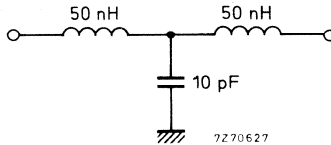

Fig. 11.
- A low-pass filter (Fig. 11) with a cut-off frequency of about 300 MHz has to be inserted between the v.h.f. aerial terminal of the tuner and the aerial terminal of the receiver. Television receivers with a common v.h.f. /u.h.f. connector in combination with a low-pass/high-pass splitter do not need this additional filter.